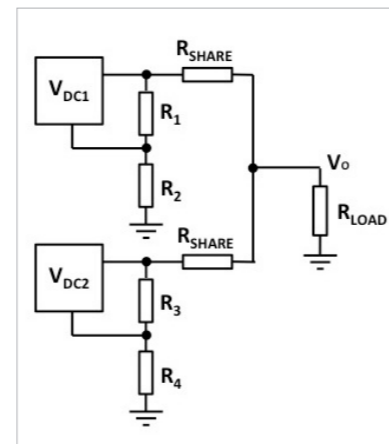

Figure 3: Balancing resistors share load between DC-DC converters
- Balancing resistors provide a way for sharing a load either between two or more DC-DC converters. Operating DC-DC converters in parallel may be more cost effective than using a single higher-current unit or may be more desirable in some instances because of physical size constraints or thermal considerations. However simply tying the outputs of two converters together does not ensure they share the load current equally. The equal value RSHARE resistors shown in figure 3